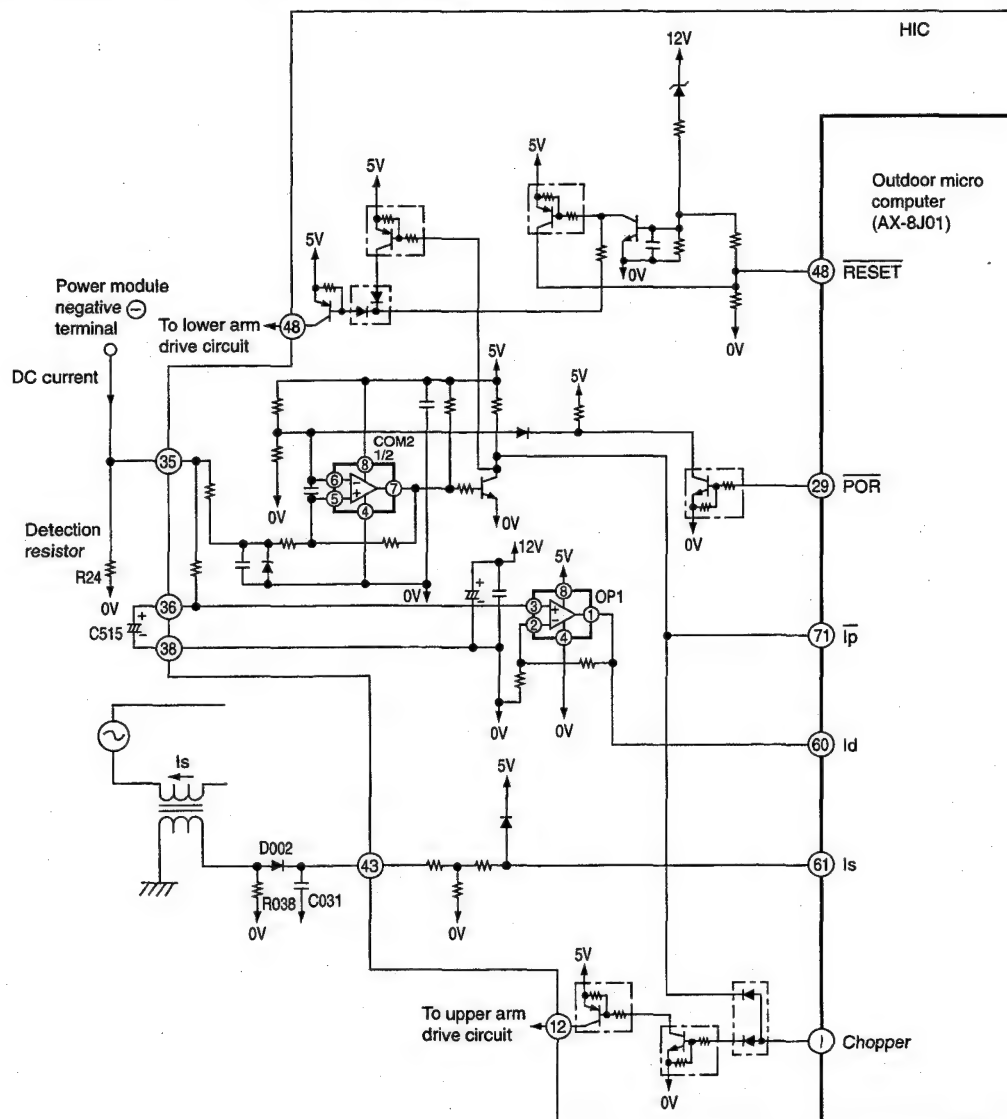
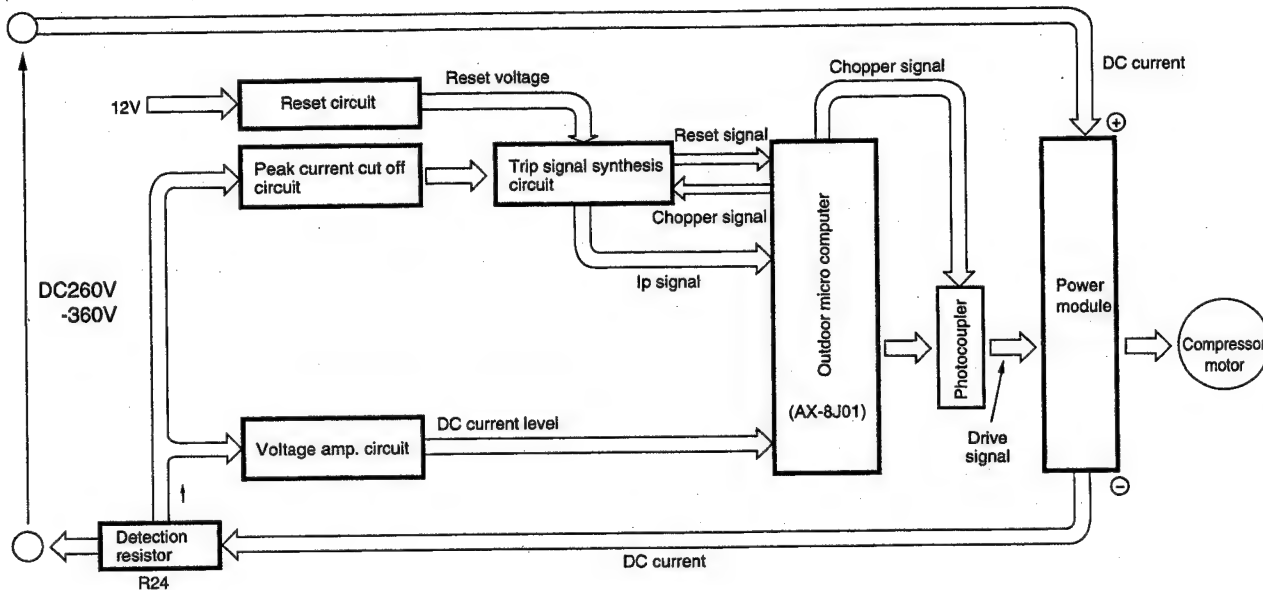

Fig. 8-1 Micro computer (AX-8J01) and Peripheral Circuits
Fig. 8-2
- Fig. 8-1 shows the micro computer and its peripheral circuits, Table 8-1, the basic operations of each circuit block, and Fig. 8-2, the system configuration.